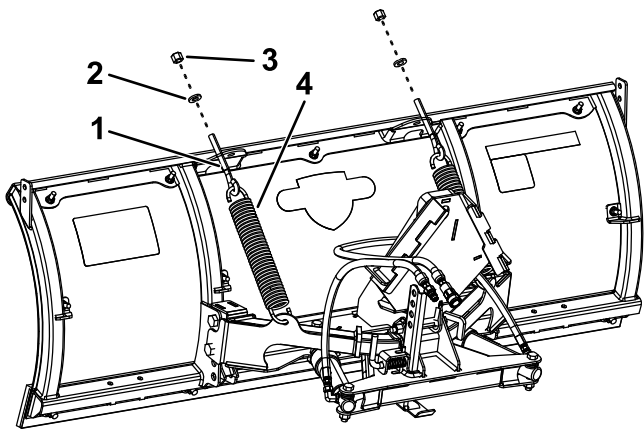

Figure 5
- Hook the 2 trip springs through the holes on the push frame (Figure 5).
- Hook the other ends of the trip springs to 2 eyebolts (Figure 5).
- Insert the threaded end of the eyebolts through the holes on the plow blade and secure them using 2 washers (1/2 inch) and 2 nylon locknuts (Figure 5).